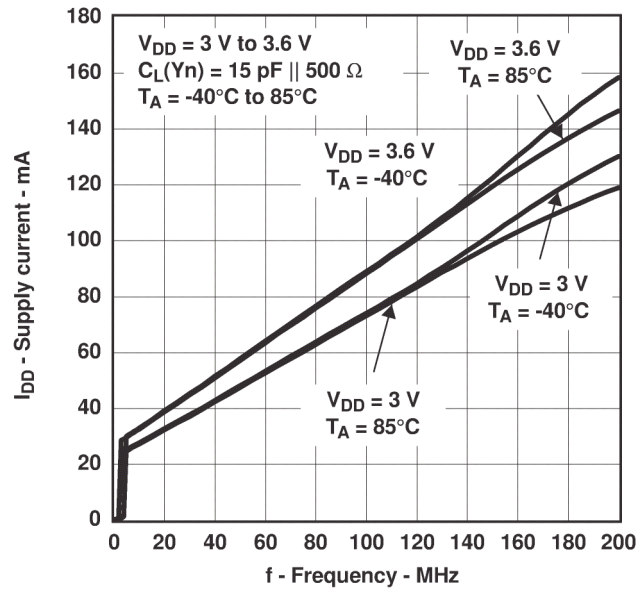

图 9-2. Supply Current vs. Frequency
(1) All typical values are at respective nominal V_{DD} .
(2) For I_{DD} over frequency see Figure 9-2.